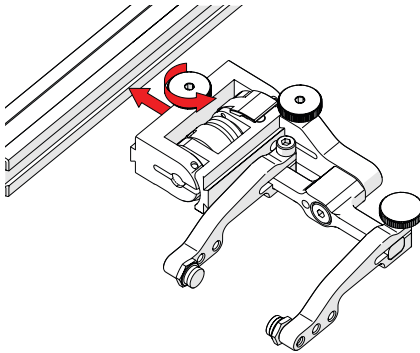

Fig. 69 - Attach to frame bar
- 1.** Rotate the probe holder adjustment knob and attach probe holder to a frame bar (*Fig. 69*).